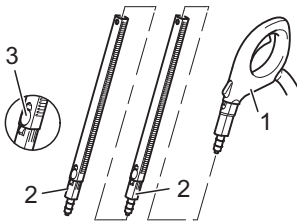

Fig. 2
1. Insert the handle (Fig. 2/1) and the extension tubes (Fig. 2/2) into each other. The locking catch clicks audibly into place.
You can take the tubes apart. To do this, press the release button (Fig. 2/3) and pull the tubes apart.